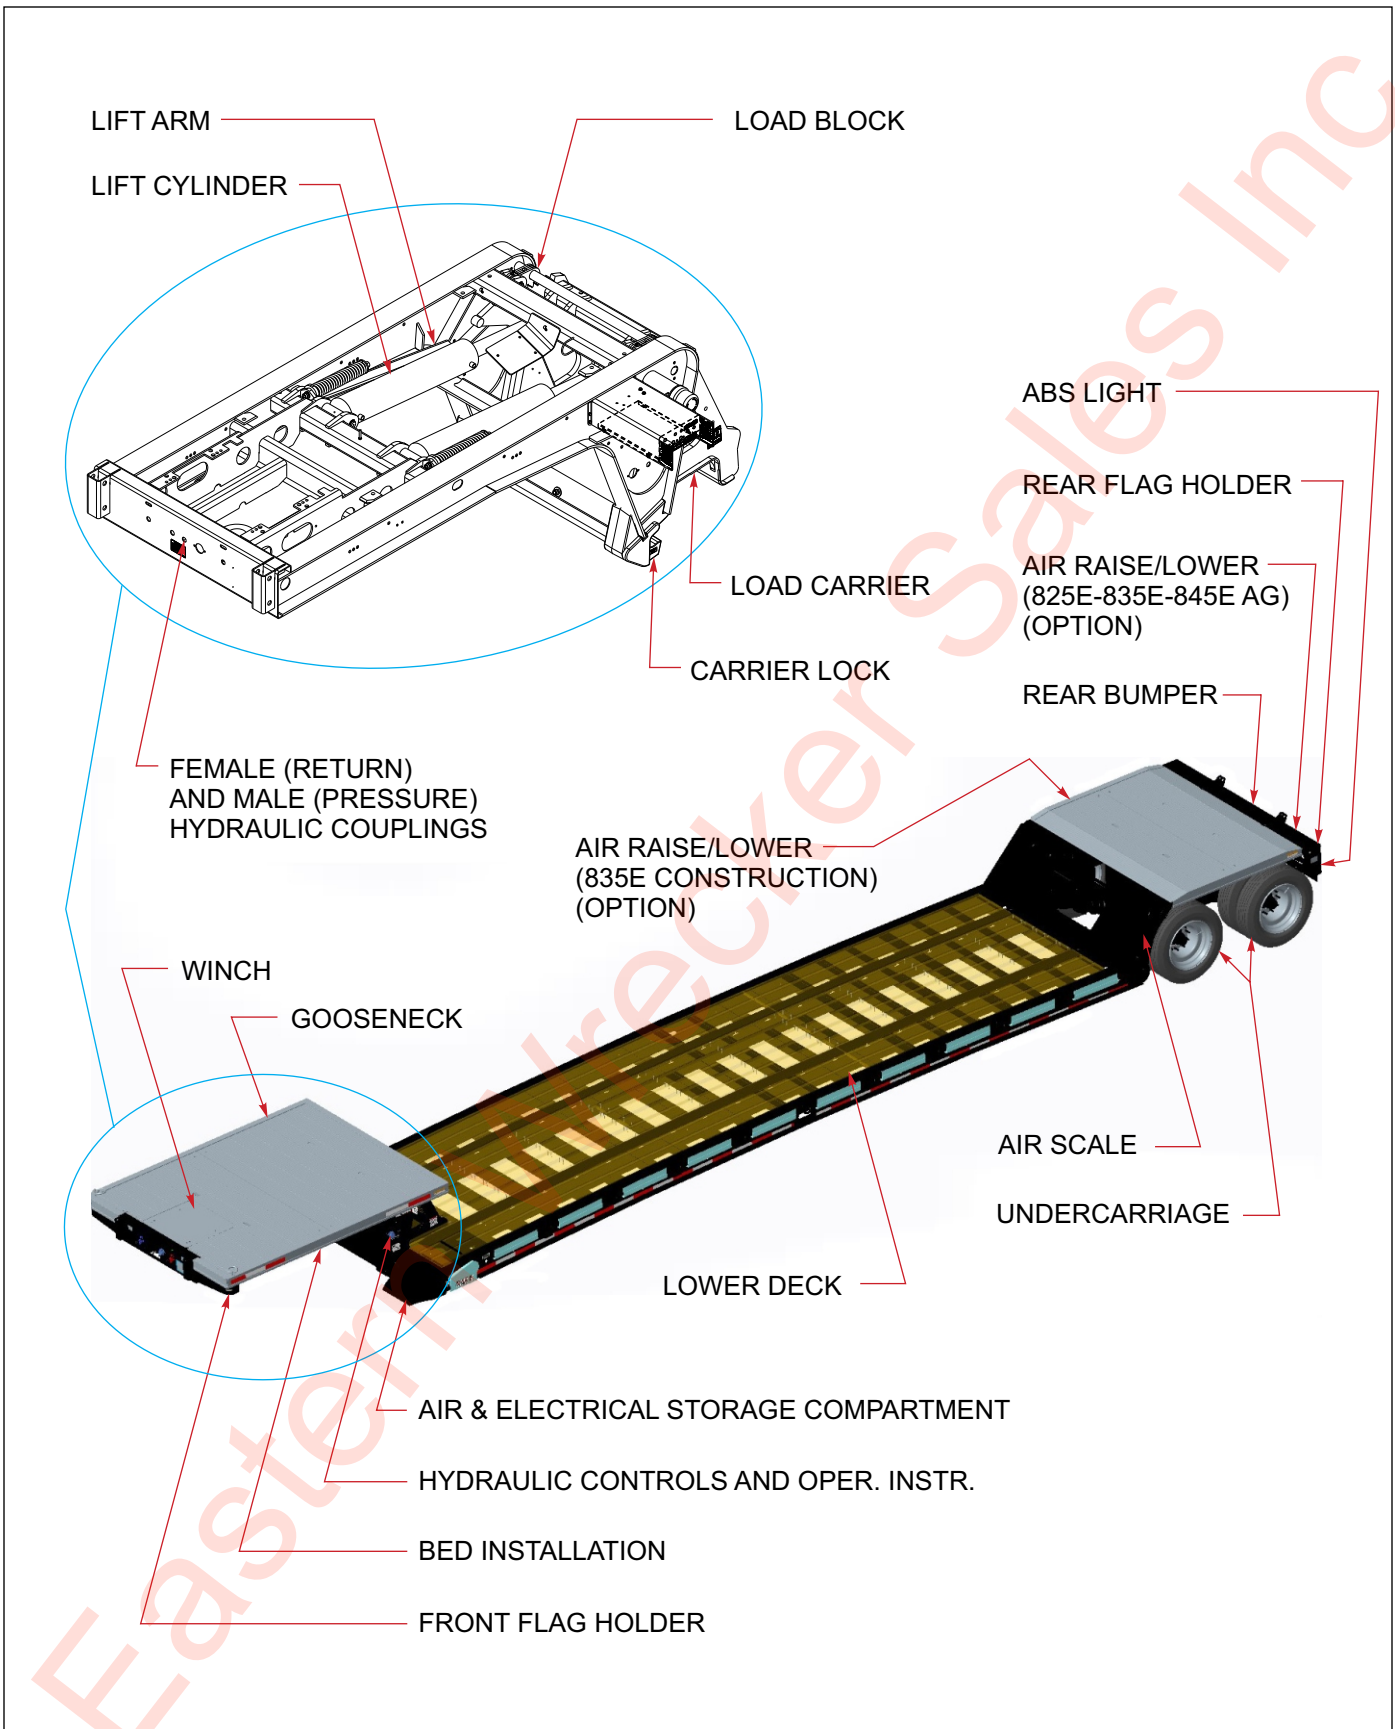

Figure 3-1: Trailer Terminology
This section supplies information for operation of the semitrailer. It describes and locates controls and gives general operation procedures. Read all instructions, warnings, cautions, and danger notes before attempting to operate the semitrailer. Operators must have proper training before operating the semitrailer. **See Figure 3-1 for location of semitrailer parts.**
2. Using the **TRAILER LIFT** lever, lift the trailer up until the load blocks can be lowered into position (**See Figure 3-1 and Table 3-1.**)
3. Activate the **TRAILER LIFT lever** "DOWN" until the semitrailer rests completely on the load blocks (**See Figure 3-1 and Table 3-1.**)
The **TRAILER LIFT lever** is located on the driver’s side of the gooseneck assembly (See **Figures 3-1 and 3-3.**) It is the middle lever and has three positions: